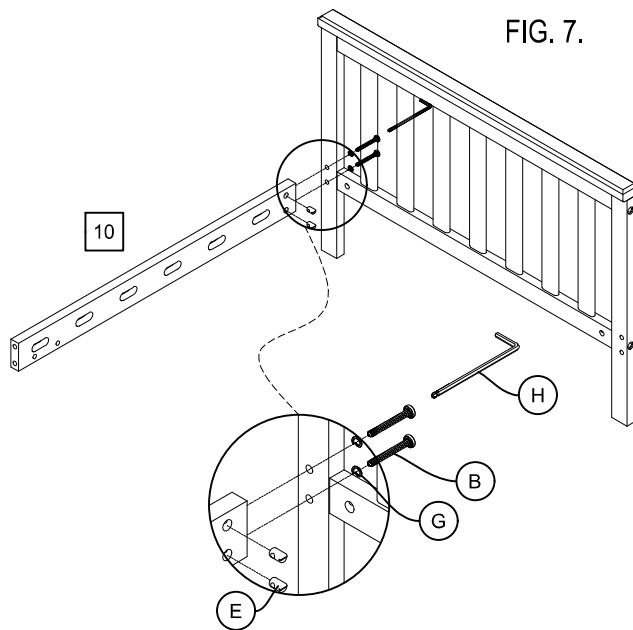

FIG. 7.
- Attach Right Side rail (10) to assembled footboard using Allen bolt (B), Spring washer (G) and Barrel nut (E) as shown in FIG.7. Tighten all bolts with Allen key (H). Use Flat Head Screwdriver (not included) to hold the barrel nuts in the proper alignment.